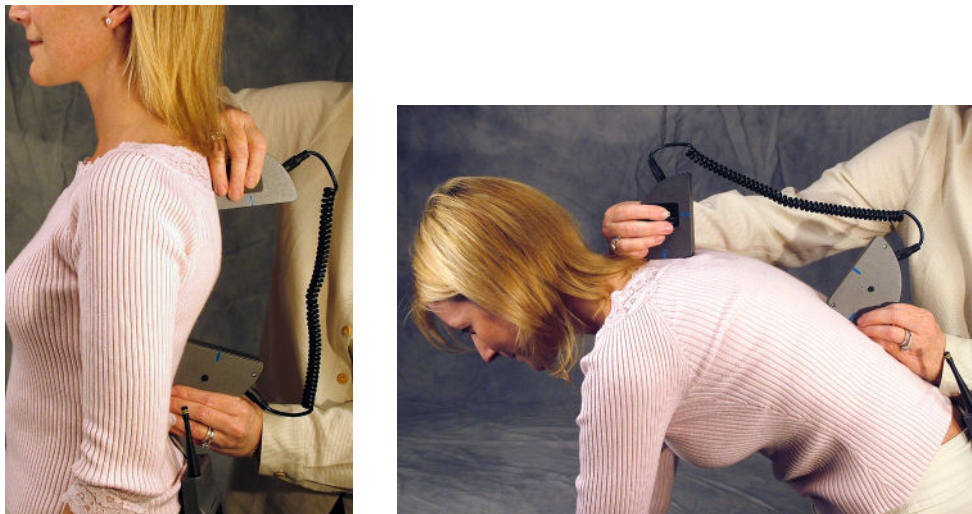

Figure 3-6. Initial & Final Thoracic ROM Flexion
- Step 1. Align the Inclinator sides in the sagittal plane and place one of the sides on T1 (Figure 3-6).
- Step 2. Place the other side at T12 (Figure 3-6).
- Step 4. Have the client maximally flex the thoracic spine (Figure 3-6).